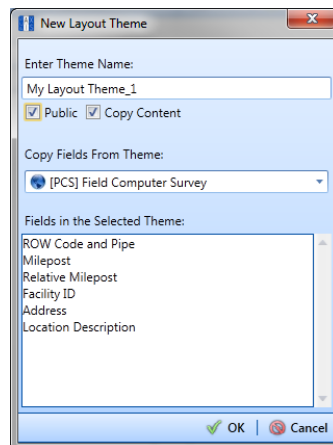

Figure 12-26. New Layout Theme
- Click the **Customize** tab  then the  **Add** button to open the *New Layout Theme* dialog box (Figure 12-26).